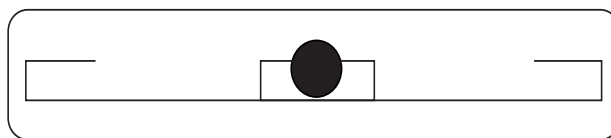

Figure 1 – eGo Plus Headlamp Sticker Tag
1. Determine where you will mount the tag. The tag should be positioned horizontally as shown in Figure 1.